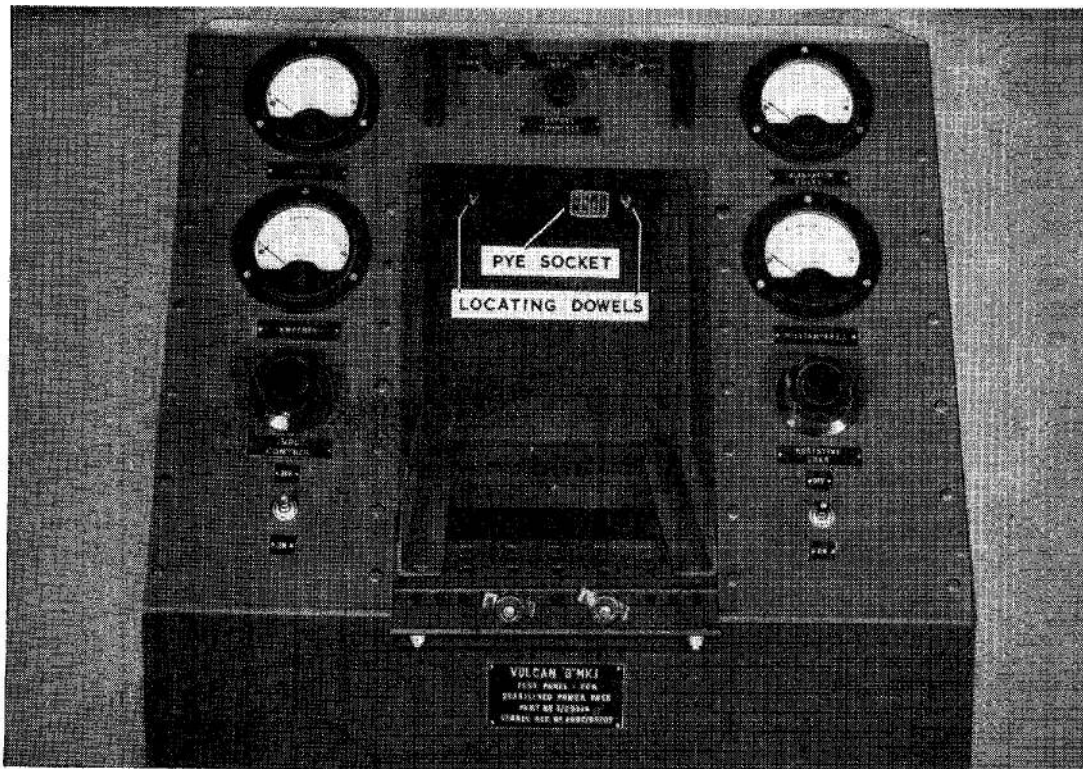

Fig. 1. General view
4. The test panel (*fig. 1*) is a container of light alloy construction with a central recess which accommodates a rack for mounting the stabilized voltage power pack. The front of the container slopes upward towards the rear to form the control panel, and the back plate is detachable. The mounting rack is